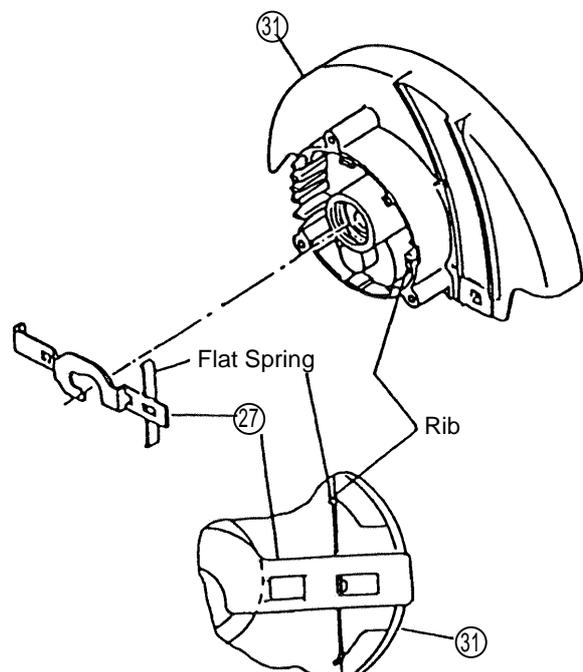

Fig. 2
- (3) Reassembly of the Lock Lever ②⑦: (See Fig. 2)
- A. Position the Lock Lever ②⑦ between the Fan and the 6201VVCMP2S Ball Bearing ②⑨, and carefully assemble it together with the Armature Ass'y ⑫ into the Gear Cover ③①.
- B. Carefully ensure that both ends of the Flat Spring on the Lock Lever ②⑦ are properly supported inside the ribs of the Gear Cover ③①, as illustrated in Fig. 2.
- C. When assembly of the Lock Lever ②⑦ is completed (when the Gear Cover ③① has been assembled to the Housing Ass'y ①⑧ and fastened with the M5 x 45 Machine Screws (w/washers) ①⑦, push the Lock Lever ②⑦ by hand and ensure that it returns smoothly to its original position when released.